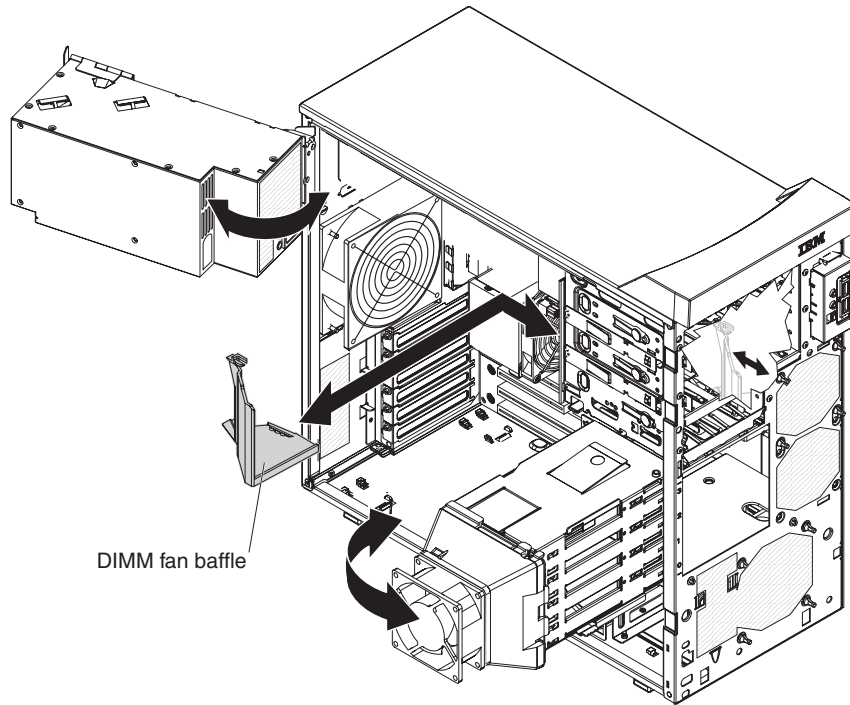

Figure 50. Removing the DIMM fan baffle
8. From inside the chassis, grasp the DIMM fan baffle and pull it out of the chassis (see Figure 50).